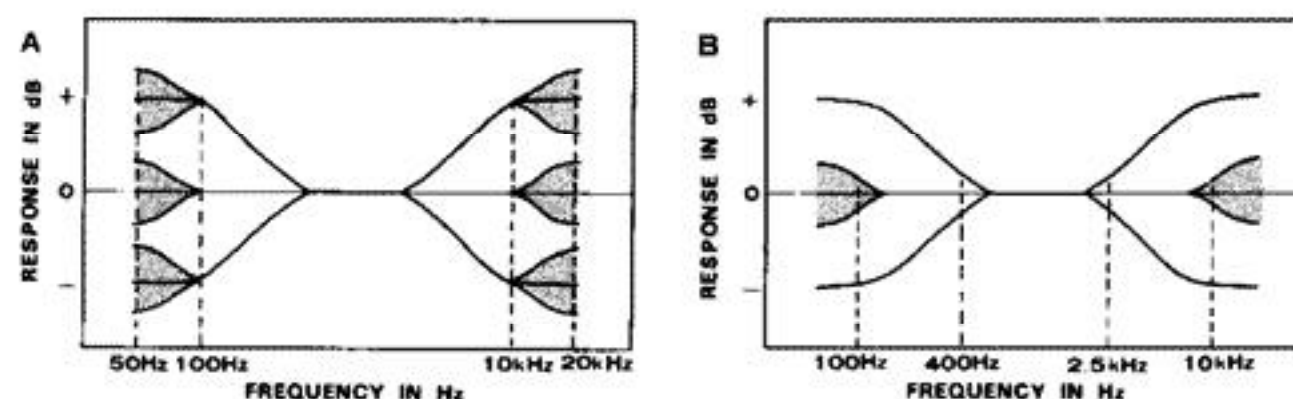

Fig. 6
Similarly, the larger TREBLE control knob adjusts treble response at  $10\text{kHz}$  by  $\pm 10\text{dB}$ . The signal can be further adjusted at  $20\text{kHz}$  by  $\pm 6\text{dB}$ . Fig. 6(A) shows the obtainable frequency response curves when both controls are used together. If the larger knobs are left at "0" and only the smaller knobs used, these function as tone controls with turnover frequencies at  $100\text{Hz}$  and  $10\text{kHz}$ , respectively. Conversely, if both small controls are left an "0" and only the large knobs used, these act as tone controls with turnover frequencies at  $400\text{Hz}$  and  $2.5\text{kHz}$ . Fig. 6(B) illustrates these uses.